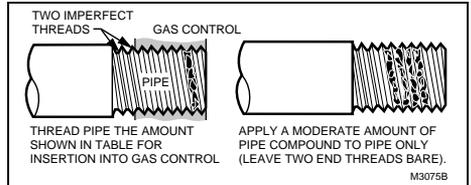

FIG. 3—USE OF MODERATE AMOUNT OF PIPE COMPOUND.
4. Apply a moderate amount of good quality pipe compound (DO NOT use Teflon tape) to pipe only, leaving two end threads bare. On LP installations, use compound resistant to LP gas. Refer to Fig. 3.
1. Remove pilot adjustment cover screw. Refer to Fig. 3.